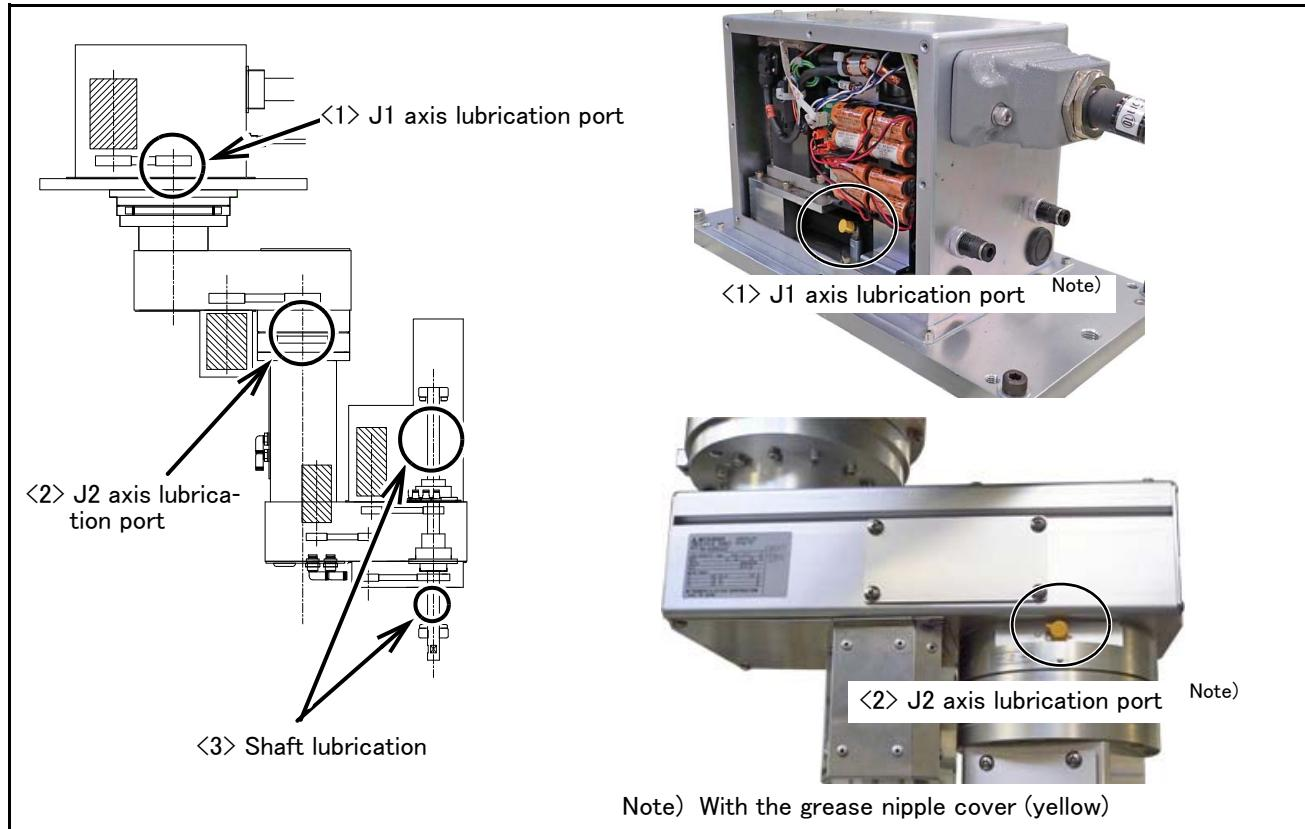

Fig.5-24 : Lubrication positions (RH-3FRHR series)
- The numbers in the Table 5-11 correspond to the supply positions in Fig. 5-24.
- 1) The positions of lubrication ports are shown in the Fig. 5-24. Move the robot to the posture in which it can supply the grease easy.